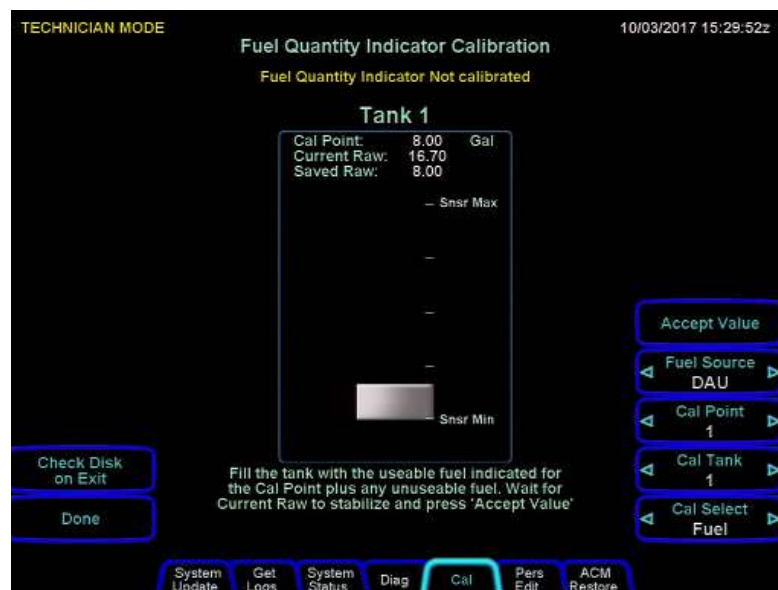

Figure 10: Calibration Point 1 Example
13. Select the "Accept Value" LSK. See **Figure 10:** for example of display.